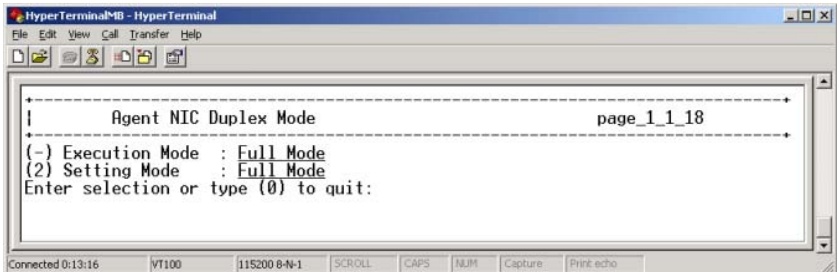

Figure 21: Agent NIC Duplex Mode menu
- i** The management blade LAN controller only runs at 10 Mbit/sec. Duplex mode must be defined manually via the *Agent NTC Duplex Mode* (see figure 21 below).